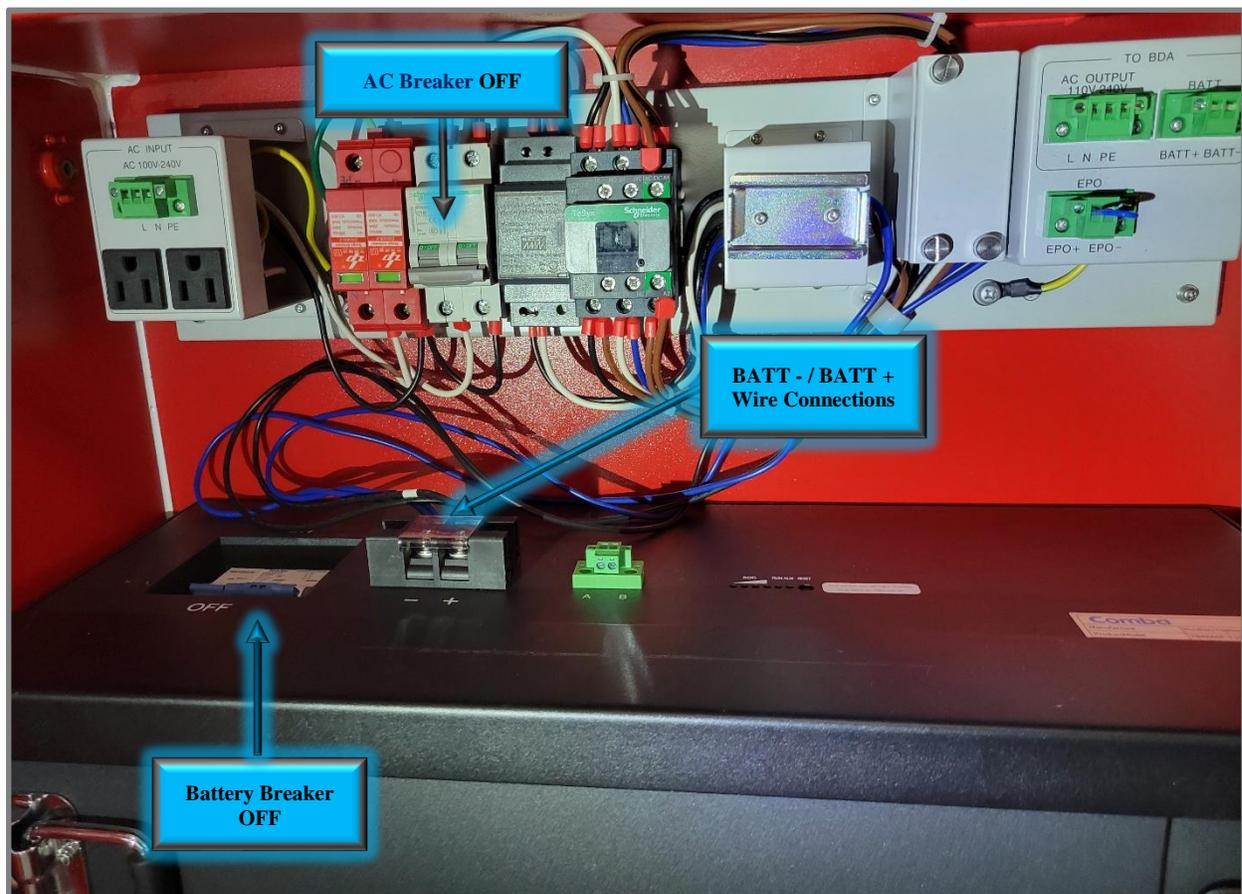

Figure 35: V3 BBU AC Breaker, Battery Breaker, and Battery Wiring
- Connect the wire(s) labeled “BATT+” to the battery positive (+) terminal; The wire(s) labeled “BATT-” to the battery negative (-) terminal as shown in Figure 35. Due to different design revisions and production batches, wires colors are in one of the following combinations: